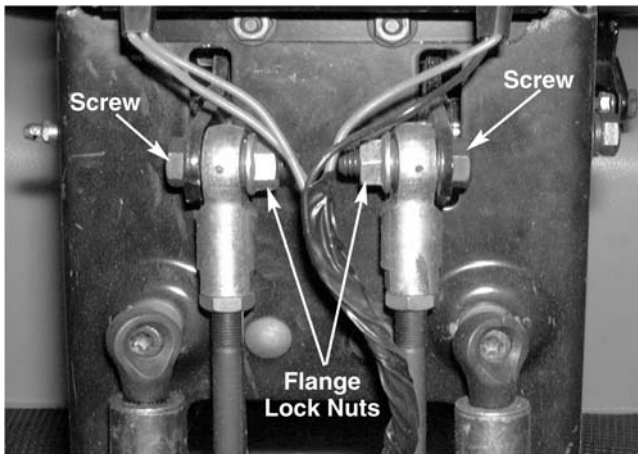

Figure 10-15.
24. Secure the alignaballs and hex cap screws to the bellcrank assemblies with the flange lock nuts removed earlier using a 9/16 socket and a 9/16 wrench. See Figure 10-15.